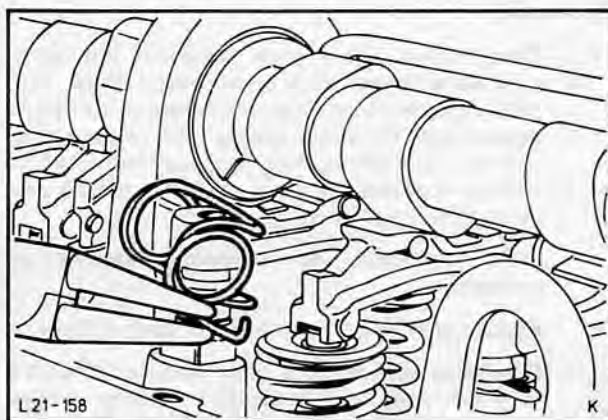
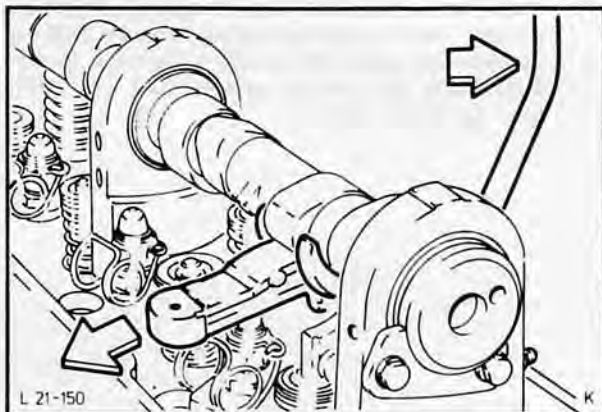

Fig. 185. Unhook cam follower springs
Fig. 186. Remove cam follower using Special Tool 21-005-A
3. Unhook cam follower springs, Fig. 185, press valve spring and valve spring retainer down, using Special Tool 21-005-A, and remove cam followers, Fig. 186.